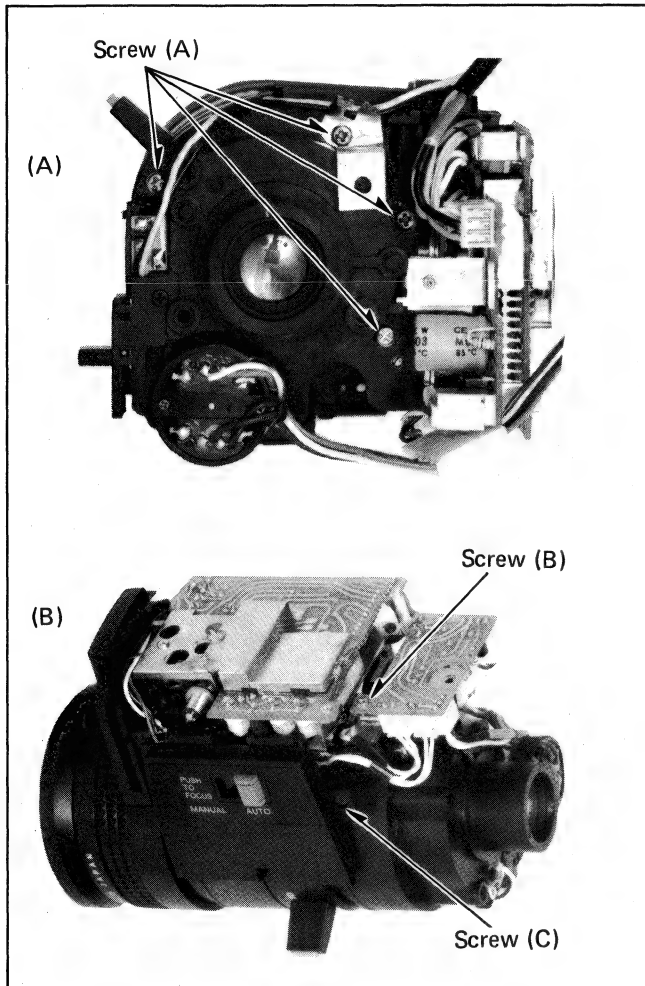

Fig. 23
- 10-2. Unscrew 4 screws (A), a screw (B) and a screw (C). Disconnect a connector. Then, remove the iris motor assembly (see Fig. 23-A/B).